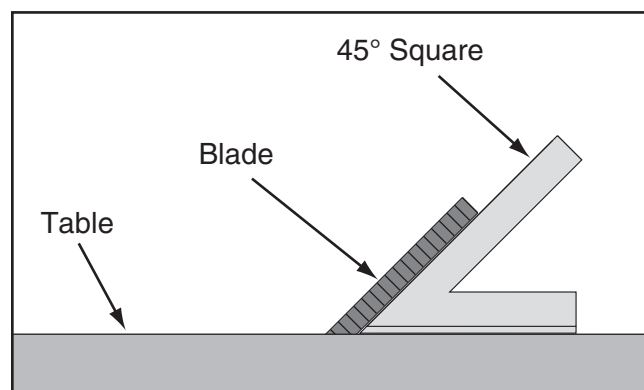

Figure 83. Checking blade at 45°.
3. Place a 45° square against table and blade so it contacts blade evenly from bottom to top, as shown in **Figure 83**. Make sure a blade tooth does not obstruct placement of square.